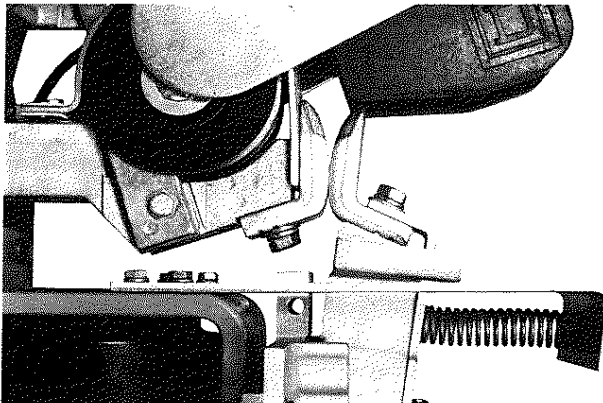
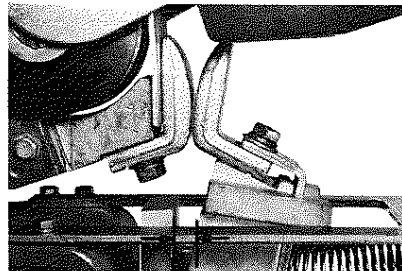

Figure 2
Figure 4
2. Check that the proper slot in the new movable contact tip is engaged with the ridge located on the auxiliary arm (14) (Fig. 2).
3. Check that the stationary contact tip is against the stationary support seat or the blowout coil guard (3) (Fig. 2).
4. Check that the contact tip surfaces are aligned both vertically and horizontally (Fig. 2).
The contact tips should be either repositioned or replaced when the contact follow-up is less than 1/16" (Fig. 4). The movable contact tip can be adjusted for additional tip life by repositioning so that the proper slot in the movable contact tip is engaged with the ridge located on the auxiliary arm (14) as shown (Fig. 4). Align the contact tips to meet squarely by the procedure in the ADJUSTMENT—Contact Tip Alignment instructions in this Service Bulletin using Figure 4 instead of Figure 2 for reference.